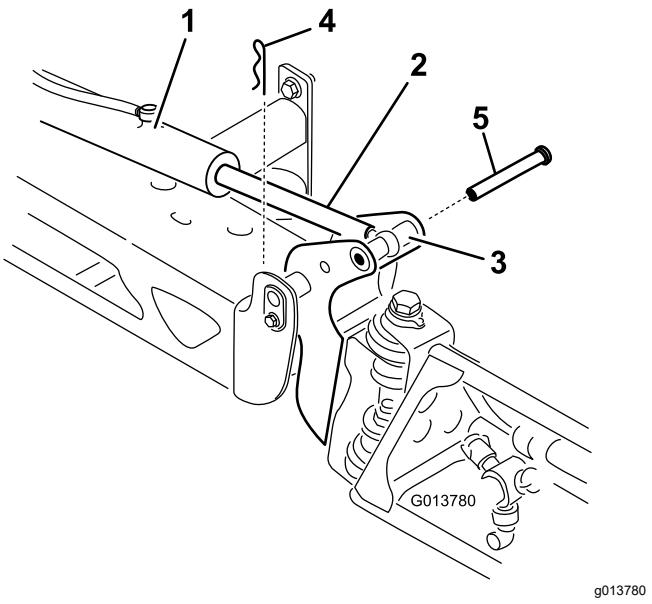

Figure 108
2. Remove the cotter pin from the pivot pin (Figure 108).
3. Lift up on the boom and remove the pin (Figure 108), and slowly lower the boom to the ground.
9. While holding the boom, insert the pin through both boom pivot and rod end (Figure 108).